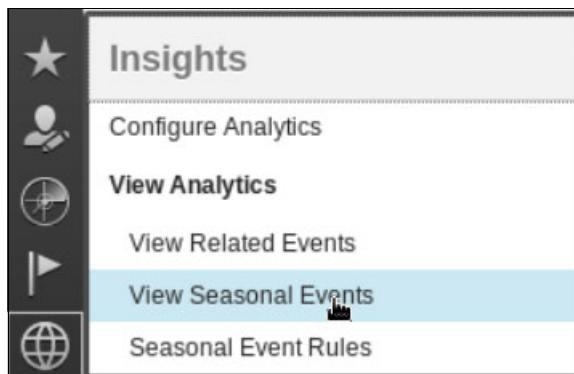

Figure 6-4 View Seasonal Events
1. He selects **Insights** → **View Seasonal Events** from the navigation menu to display the Seasonal Event page, as shown in Figure 6-4.